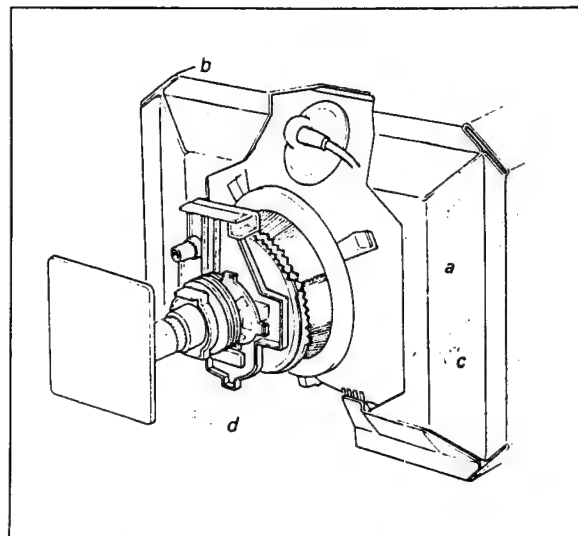
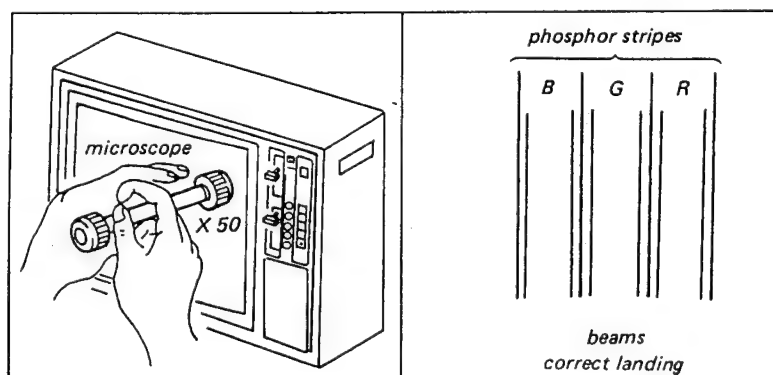

Fig. 3-4. Adjustment of corner mislanding by affixing a small disk magnet
Fig. 3-5. Beam landing check by using a microscope
10. Tighten the deflection yoke fixing screw, and remove the top rubber spacer inserted in step 5., then reinsert the three rubber spacers (wedge-shaped) as shown in Fig. 3-4.
11. For precise beam landing adjustment, use a 50X microscope, or equivalent as shown in Fig. 3-5 while receiving a crosshatch pattern. The microscope should be placed directly against the faceplate of the tube under observation. Correct beam landing is obtained by back and forth movement of deflection yoke or applying a small disk magnet as shown in Fig. 3-4.